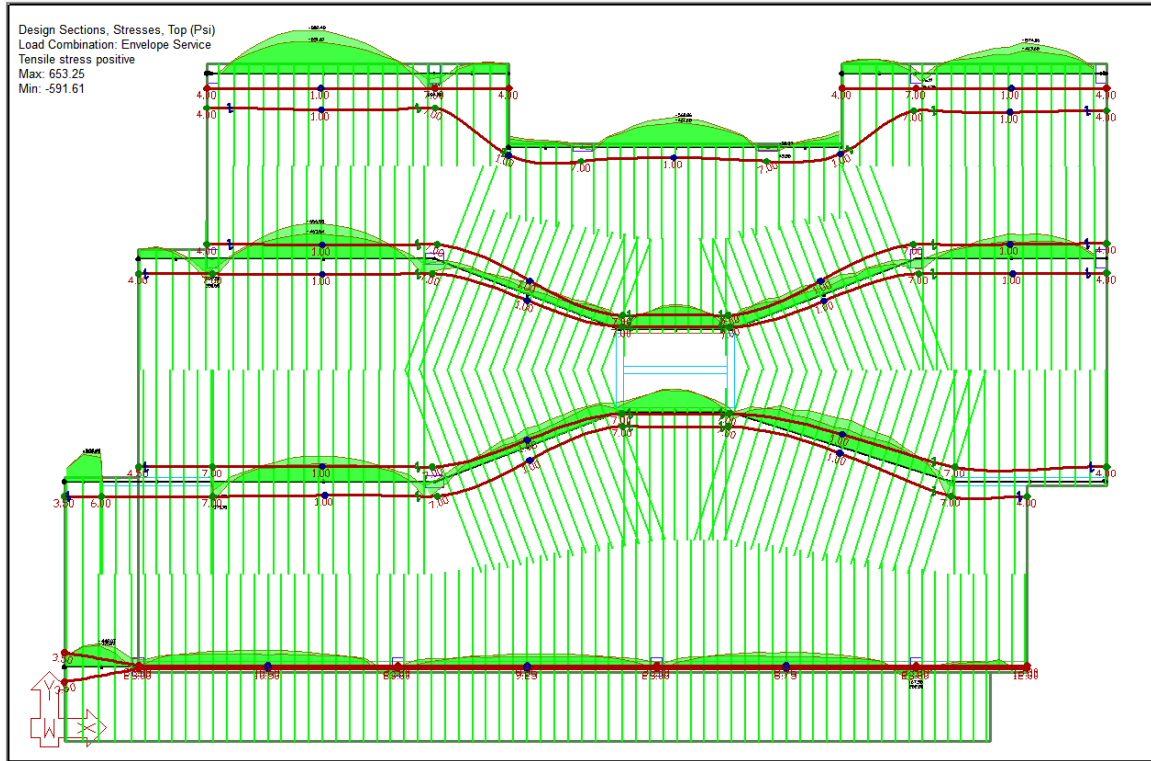
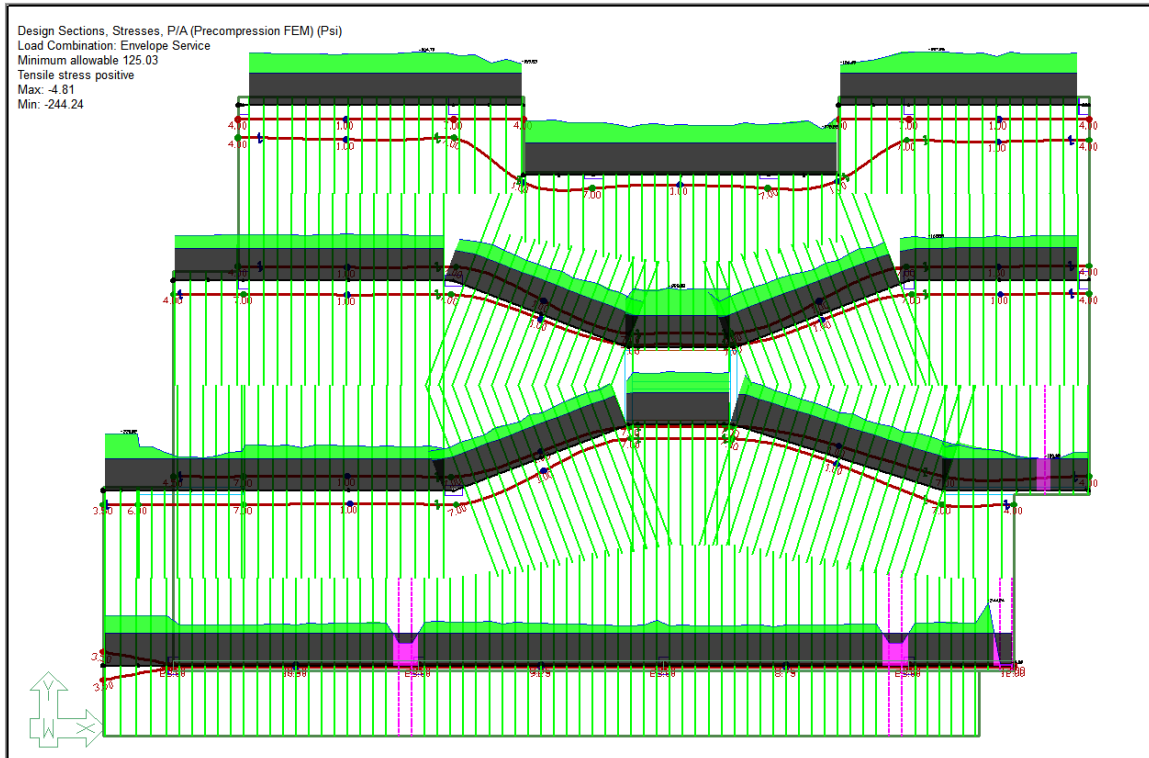

FIGURE 9-105: Top Stress X-direction
FIGURE 9-107: Precompression # of Tendons X-direction
- When the optimization and Service Solution Update is finished for the banded direction, you can review stresses and precompression for the X-direction support lines and see them all passing as shown in **FIGURE 9-105** through **FIGURE 9-107** below. Note that X-direction precompression is showing failing in some sections. After further investigation we have deemed these sections as passing precompression check.